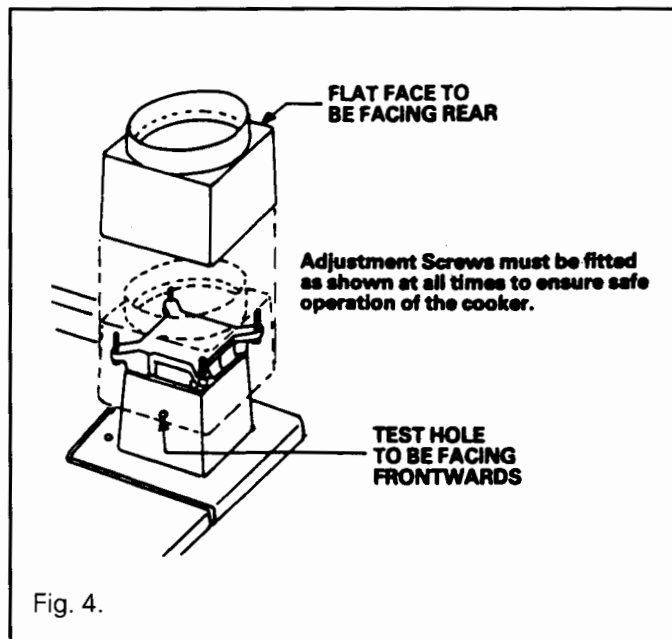

Fig. 4.
1. Draught Diverter Assembly See Fig. 4.
2. Assemble and locate the flue draught diverter assembly on the top plate. See Fig. 4.